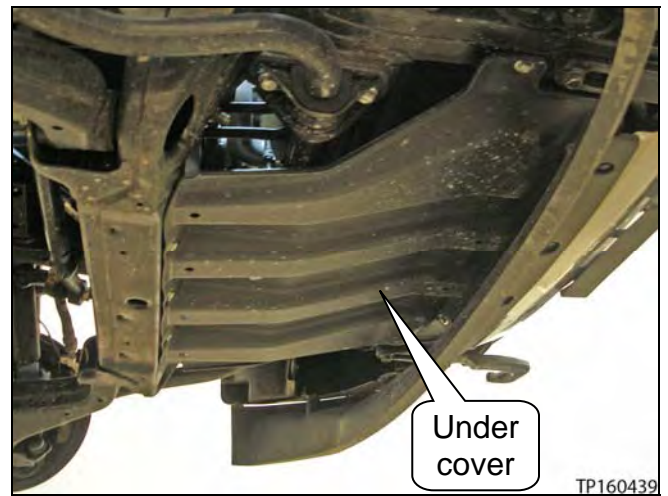

Figure 2
6. Raise the vehicle, and then remove the front under cover (see Figure 2).